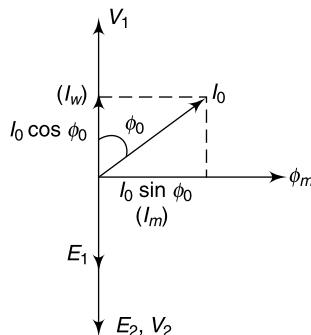

Fig. 8.5 Phasor diagram under no load condition ($N_2 > N_1$)
- The induced emfs in primary and secondary windings (E_1 and E_2) lag behind the main flux ϕ by an angle $\pi/2$, and E_1 and E_2 are in the same phase with each other [as shown in the phasor diagram (Fig. 8.5)].
Thus, from the phasor diagram of Fig. 8.5, we have